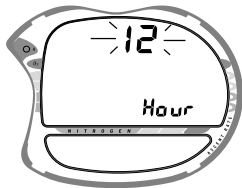

Fig. 24 - Set Hour Format
- The graphic **Hour** appears with **12** (or 24) flashing (Fig. 24).